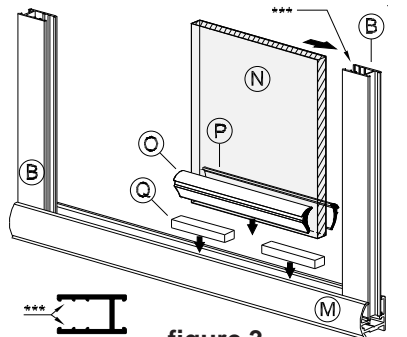

figure 3
4. Reposition Wall Jamb (B) as before and secure Jamb to walls using the six(6) 1-1/4" Installation Screws (H) provided (3 per jamb).
5. Decide on Glass Panel (N) location (**door on left - glass panel on right OR door on right - glass panel on left**). Insert two(2) Setting Blocks (Q) into the Sill cavity as shown in figure 3. \*\*\*Run a bead of caulking the full length of the Wall Jamb on both inside walls. Set Glass Panel (N), on top of the setting blocks and slide it into Wall Jamb (B). Cut and insert horizontal vinyls (P) and (O) to secure the glass panel in place.